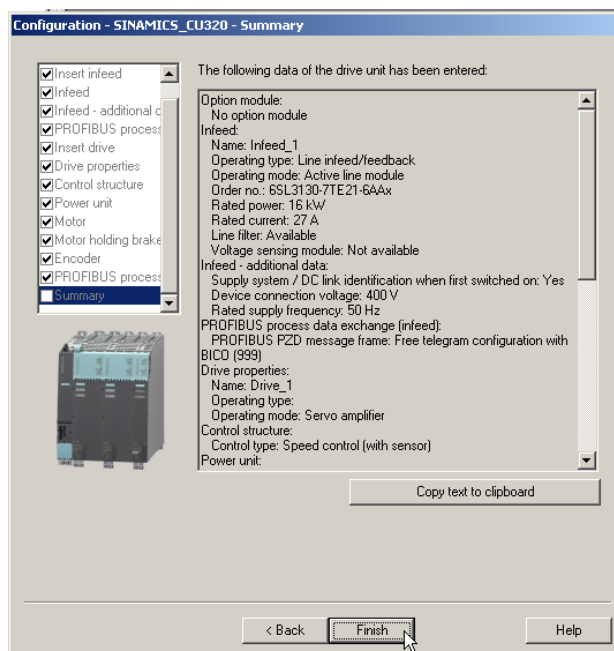

Fig. 5-19 Summary
7. Click **Continue** > and work through the Wizard until the summary is displayed (see Fig. 5-19).